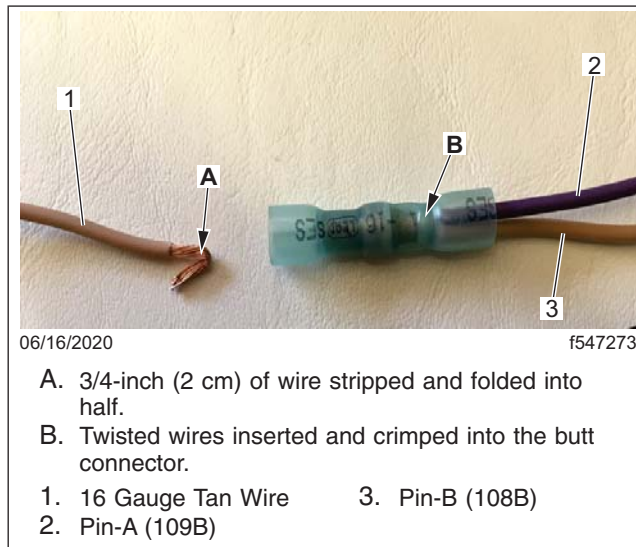

Fig. 5, Crimping Wires into Butt Connector.
- 7.2 Insert the twisted wires into the butt connector PHM 1 1862, then crimp using tool DKIOCHA17003-3. See Fig. 5.
- 7.3 Strip approximately 3/4-inch (2 cm) of insulation from the new section of 16 gauge tan wire, then fold the stripped section of wire into half. See Fig. 5
- 10.2 Insert the twisted wires into the butt connector PHM 1 1862, then crimp using tool DKIOCHA17003-3. See Fig. 5.
- 10.3 Strip approximately 3/4-inch (2 cm) of insulation from the cut wire (108C) that is connected to the 4-pin connector, and then fold the stripped section of wire into half. See Fig. 5.